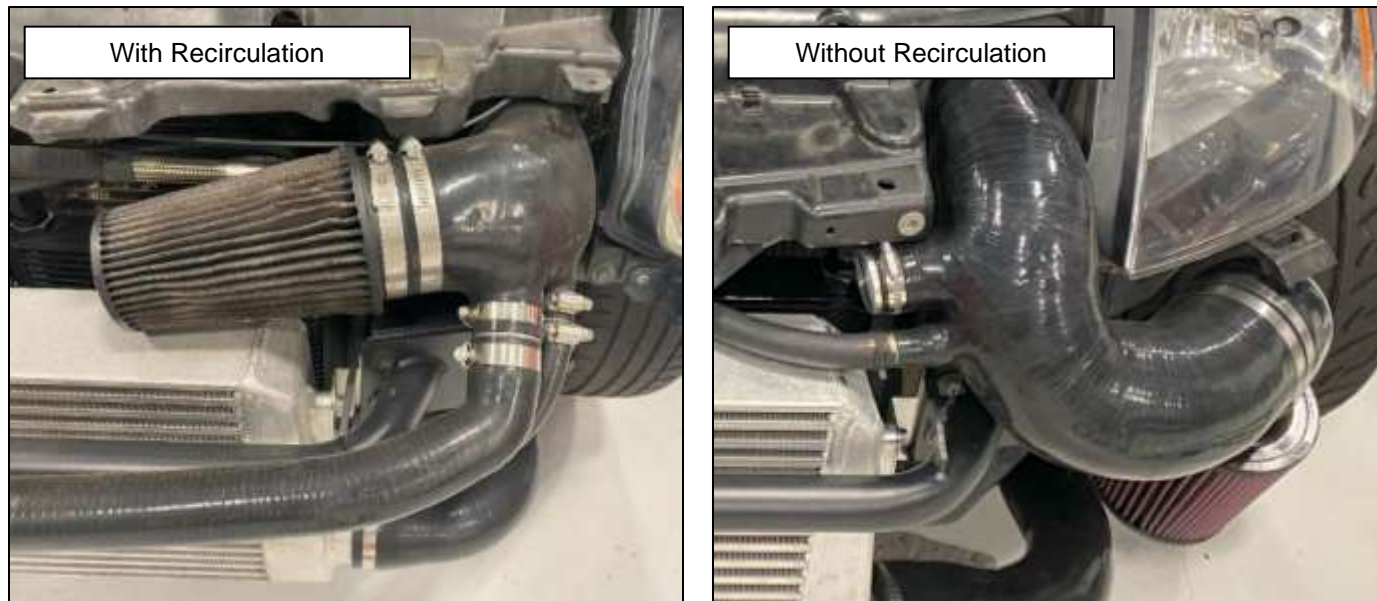

Figure 86
4. Install the (3) three Metal Joiners into the Inlets of the Intake Tube and secure each with a Clamp. *Figure 85* above. The 350Z has an extra Silicone Elbow Piece that will need to be installed with a Joiner before the Air Filter. Seen below in *Figure 86*.
6. Secure the Recirculation Pipe with a Clamp to the Joiner in the Intake Tube. If you are not using the Recirculation Pipe, install the supplied Plug and Hose Clamp into the Intake Pipe, and skip *Step 7*. *Figure 86*.